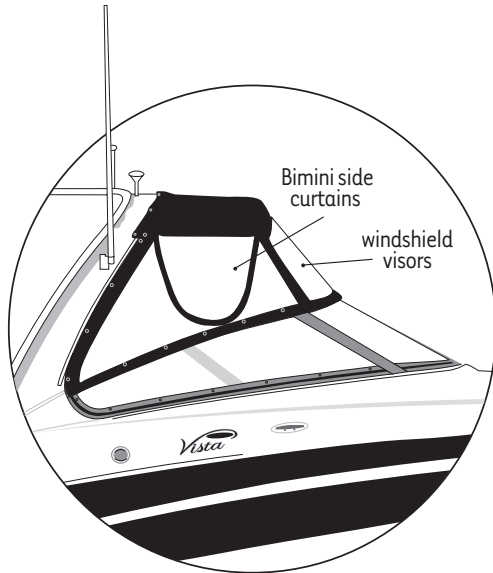

Figure O-5: Bimini Side Curtain & Visor Installation
- 3) Attach the center visor piece to the bimini top, then each of the side visors - zipping each piece about 3" until all the parts are in position. See Figure O-5.